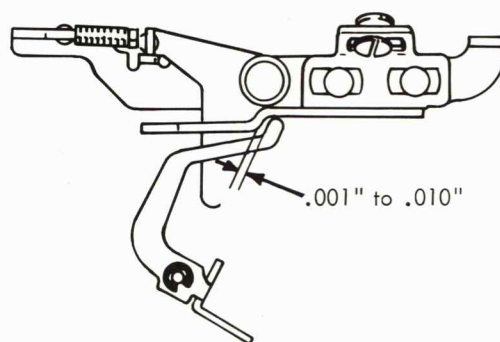

FIGURE 183.1. Line Lock Bracket (Late)
- 8.1 Line Lock Bracket Adjustable Plate (Late Style) (Fig. 183.1) - Position, with carrier in the next to last column to obtain .001" to .010" between the inclined surface and the bellringer bellcrank.